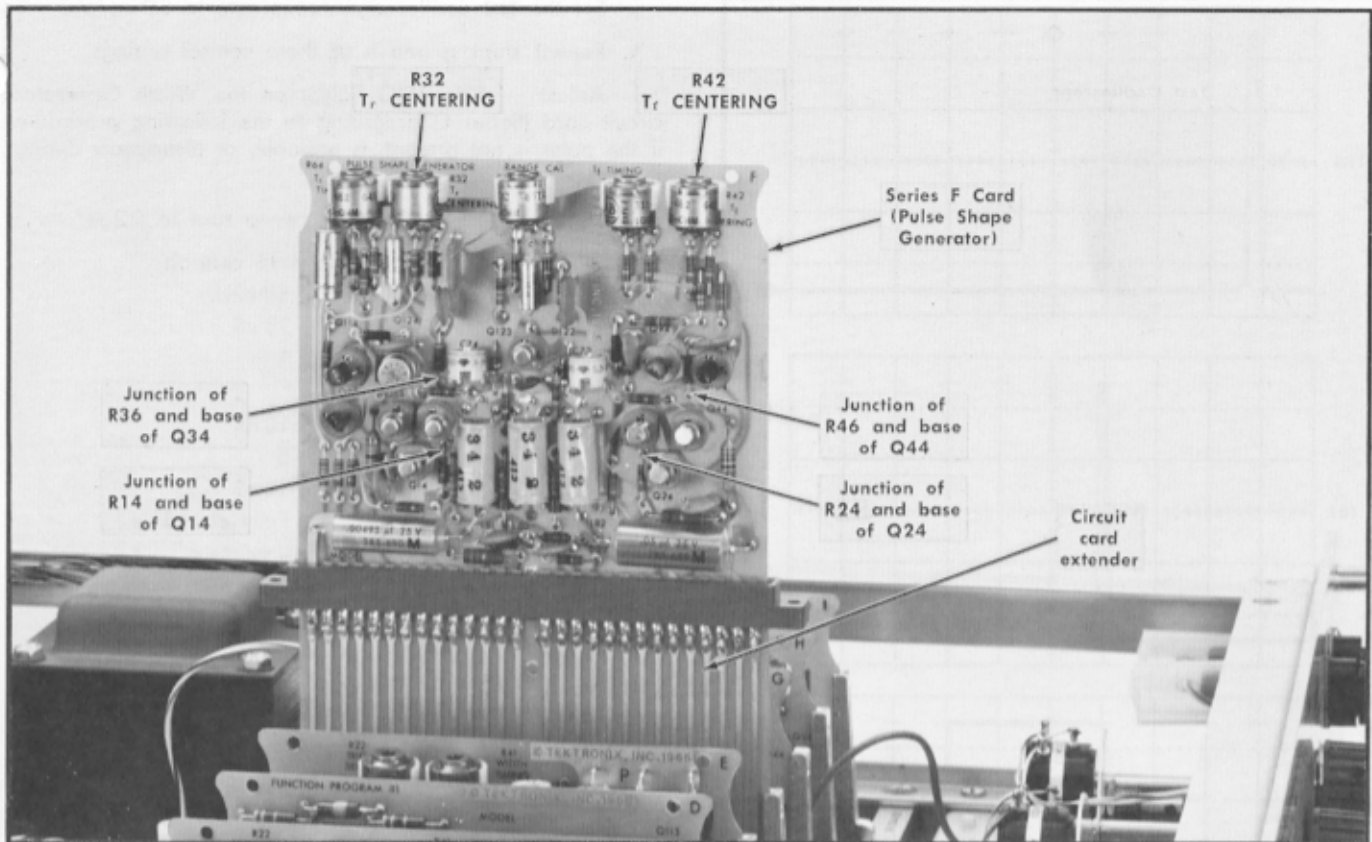

Fig. 7-9. Location of test points for setting risetime centering and falltime centering.
- e. Connect the negative lead of the voltmeter to the junction of R14 and the base of Q14 (see Fig. 7-9).
- a. Connect the negative lead of the voltmeter to the junction of R24 and the base of Q24 (see Fig. 7-9).